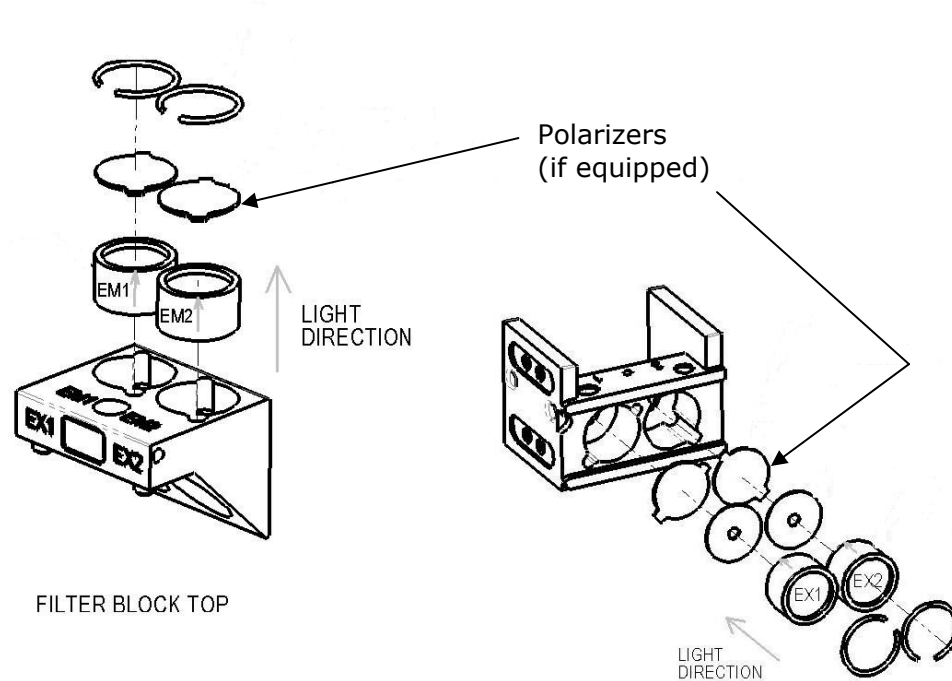
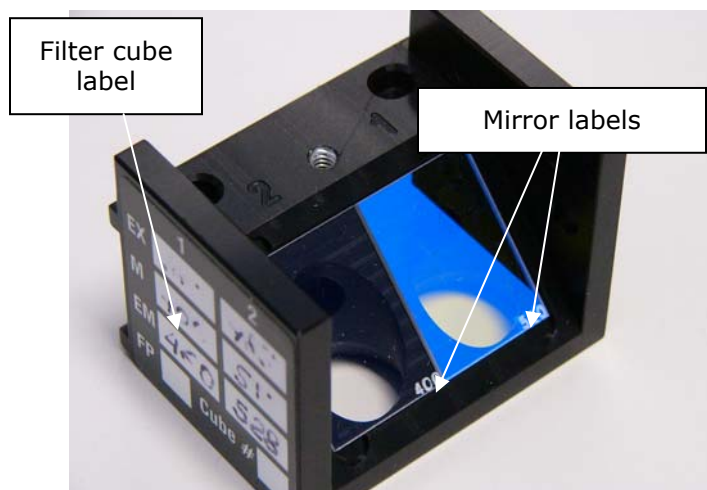

Figure 2: Correct orientation of the EX (left) and EM (right) filters in the filter cube
Figure 3: Two half-size mirrors positioned in the filter cube
Most Synergy H1 models are equipped with excitation and emission filters and mirrors for use when taking fluorescence and luminescence measurements. Each filter cube contains two filter sets, each of which contains one excitation filter, one emission filter, and one mirror. The filter cube is accessed through a hinged door in the front of the instrument. You can mark the label on the front of the filter cube with the contents of the cube (see *Figure 3*).
Filters are not specific to either excitation or emission. Filter direction within the filter cube is important, and the direction differs depending on the filter type. Each filter has its central wavelength and band pass values printed on its side, with an arrow to indicate the proper direction of light through the filter (see *Figure 2*).
Mirror direction is important. The mirror label should be in the lower-right corner of the mirror and readable (see **Figure 3**). If the mirror is not positioned correctly in the filter cube, your measurement data may be inaccurate.
1. Ensure that all filters, plugs, and mirrors are inserted properly (see **Figure 2** and **Figure 3**).